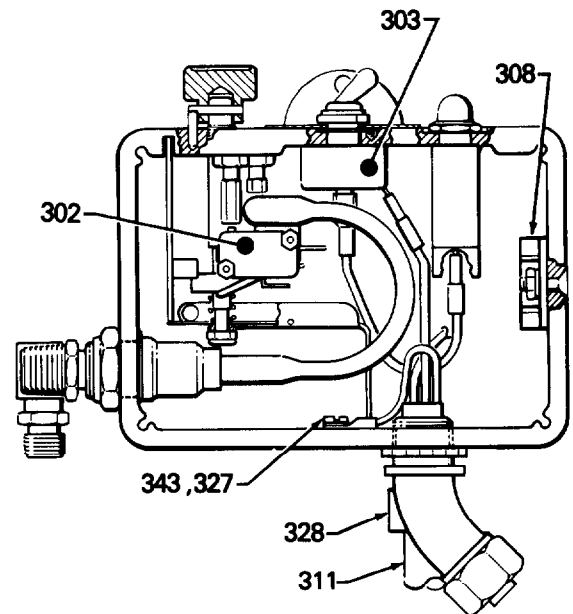

Fig 12
POWER SUPPLY CORD REPLACEMENT (See Fig 12)
ON/OFF SWITCH REPLACEMENT (See Fig 12 and 13)
2. Use a needle nose pliers to disconnect the upper terminal wire from the microswitch (302) for ease in removing the ON/OFF switch (303). Refer to Fig 12.
3. Use the pliers to disconnect the two black wires from the ON/OFF switch (303). Refer to Fig 12.
9. Reconnect the wires to the ON/OFF switch (303) and reconnect the wire to the microswitch (302). Refer to Fig 12.